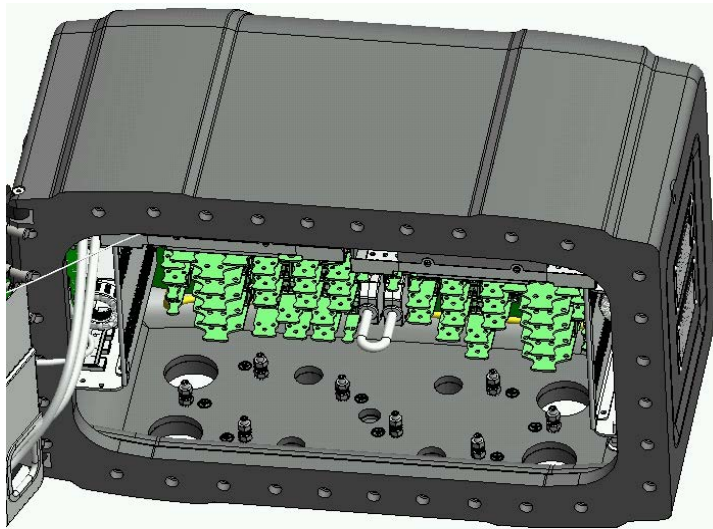

FIGURE 3-14 PE ground connections for external cables
The Protected Earth (PE) ground connections for external cables are connected to one of the nine M4 studs at the bottom, using the gland entries, as displayed in FIGURE 3-14.